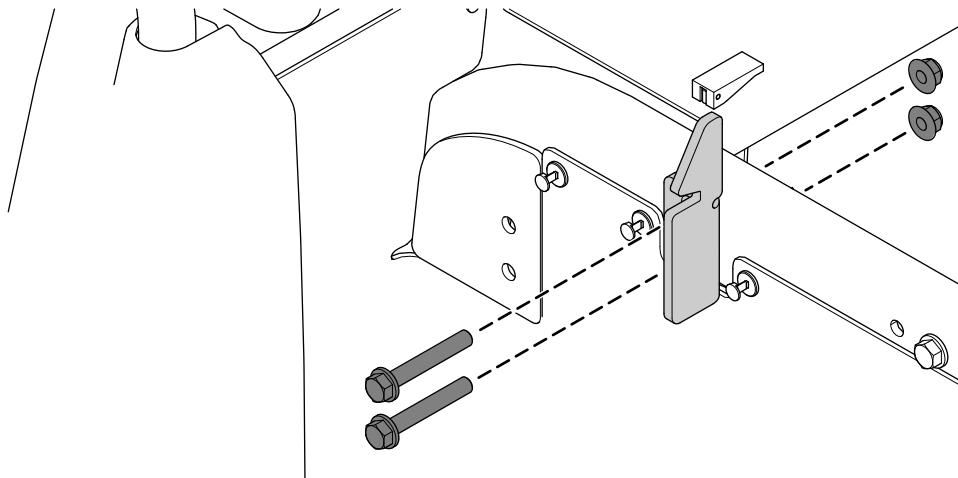

Figure 5
- Remove the 2 latches, 4 flange-head bolts (3/8 x 2-1/2 inches), and 4 flange nuts (3/8 inch) from the left and right frame tubes (Figure 5).